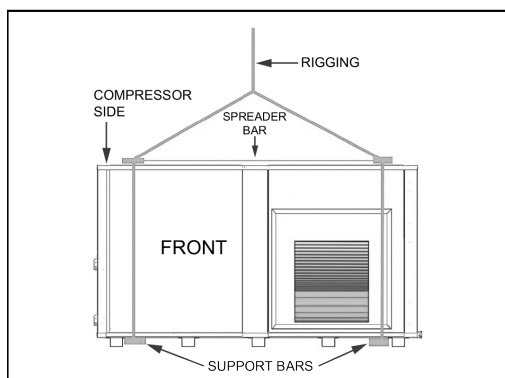
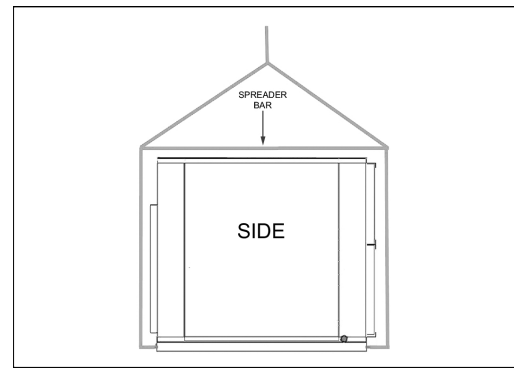
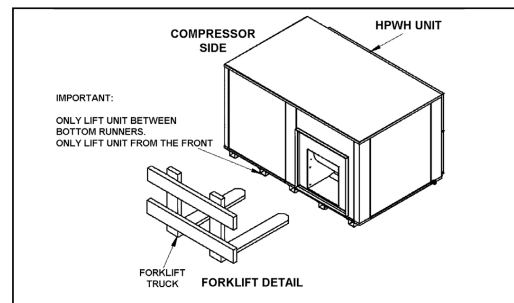

FIGURE 4
FIGURE 5
FIGURE 6
- Do not hoist the unit with chains or straps unless spreader bars are furnished and used as depicted in Figure 4 and Figure 5. The side panels and roof of the unit are not constructed to handle significant force from the sides or above.
- The HPWH unit is heaviest on the compressor side (left side when facing the front of the unit). See Figure 4 and Figure 6.
- When using a forklift to raise the HPWH unit ensure the forks are positioned correctly between the runners on the bottom of the HPWH unit. See Figure 6.
- The HPWH unit must be lifted from the front side only when using a forklift to raise the unit. See Figure 6.